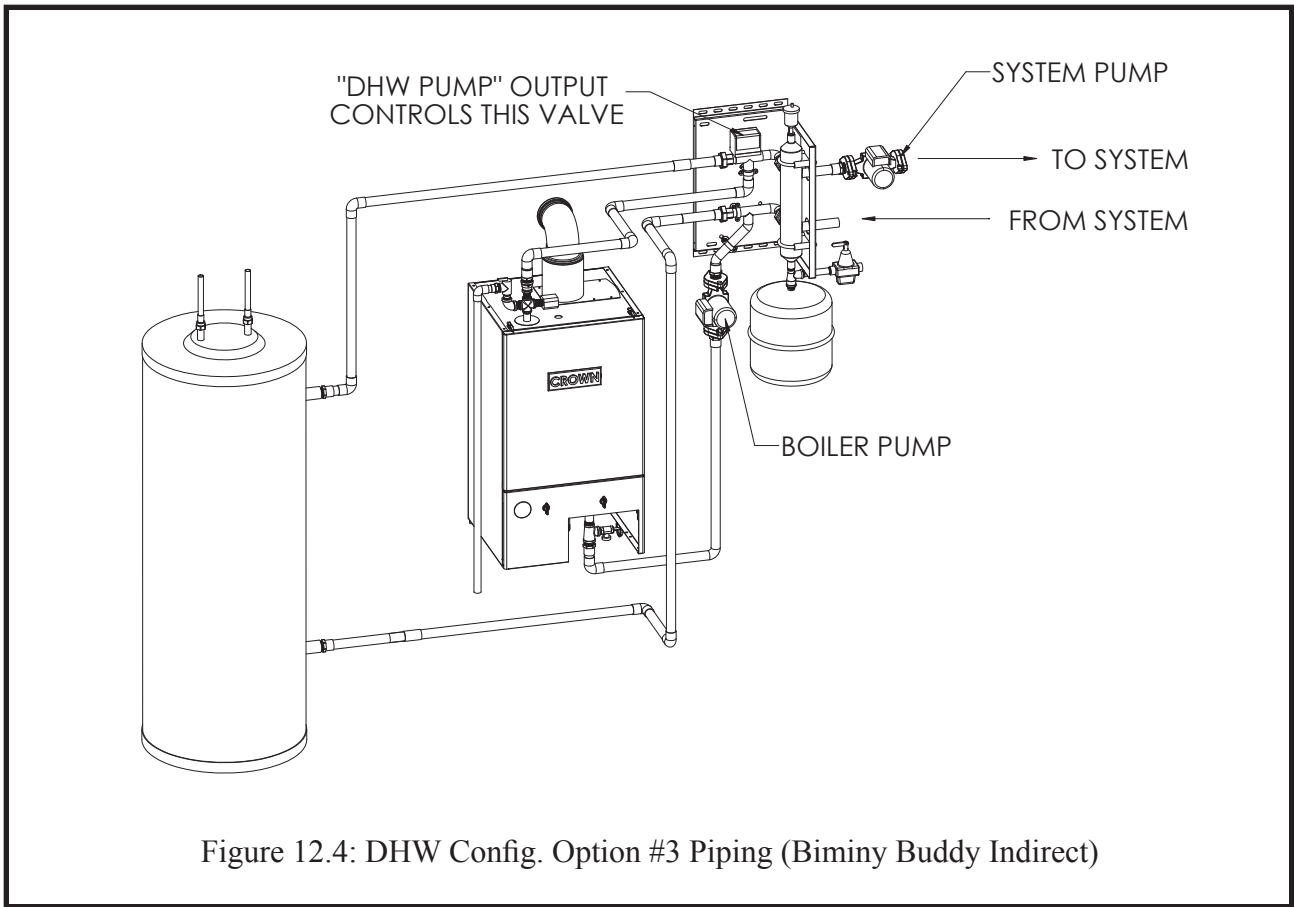

Figure 12.4: DHW Config. Option #3 Piping (Biminy Buddy Indirect)
**Option #3: Indirect Water Heater Type: Storage (MS) Bimini Buddy BB100I, Zoning: 120V 3-Way Valve** - This option is selected when the boiler is used with a Bimini Buddy Indirect near boiler piping package (Figure 12.4). When this option is selected, the system operates as follows: